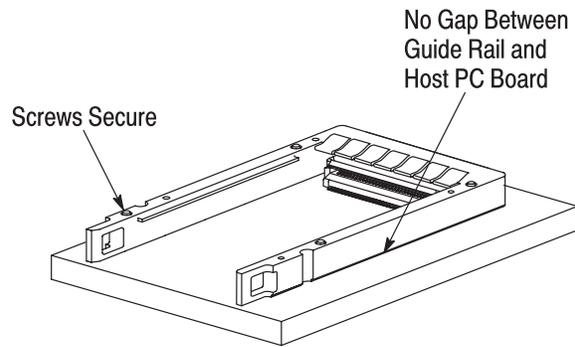

Figure 4
4. Check to make sure that there is no gap between the guide rail and the host pc board. Refer to Figure 4.